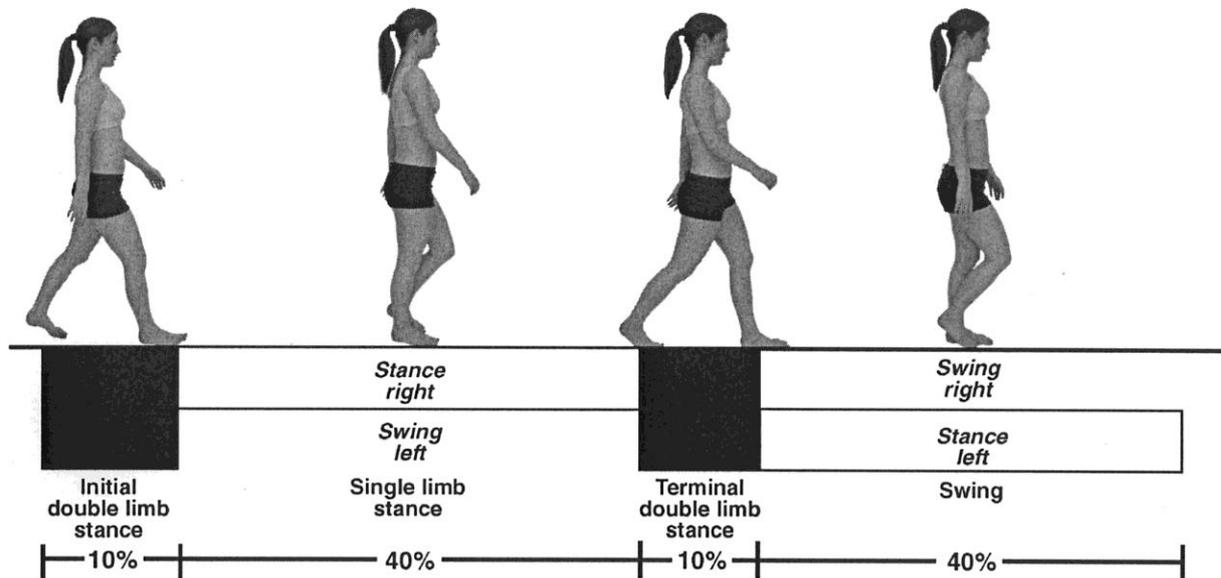

Figure 2: Phases of Normal Gait¹ relating to the subject's right leg
Stance begins and terminates with a period of double support. There is one period of single support from Mid Stance (MS) to Terminal Stance (TS), which accounts for 40% of the gait cycle (see figure 2).